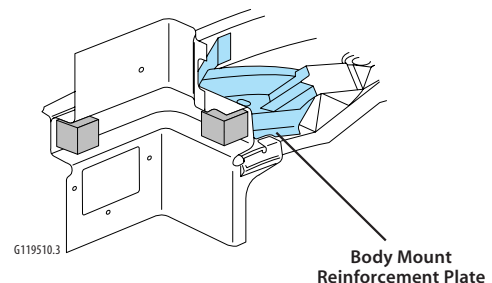

Figure 10-3:
6. Locate, mark, and drill out welds to remove the body mount anchor plates and the floor panel reinforcement. Remove the foam air baffles from the right and left floor extensions (figure 10-3), these need to be reinstalled during assembly.